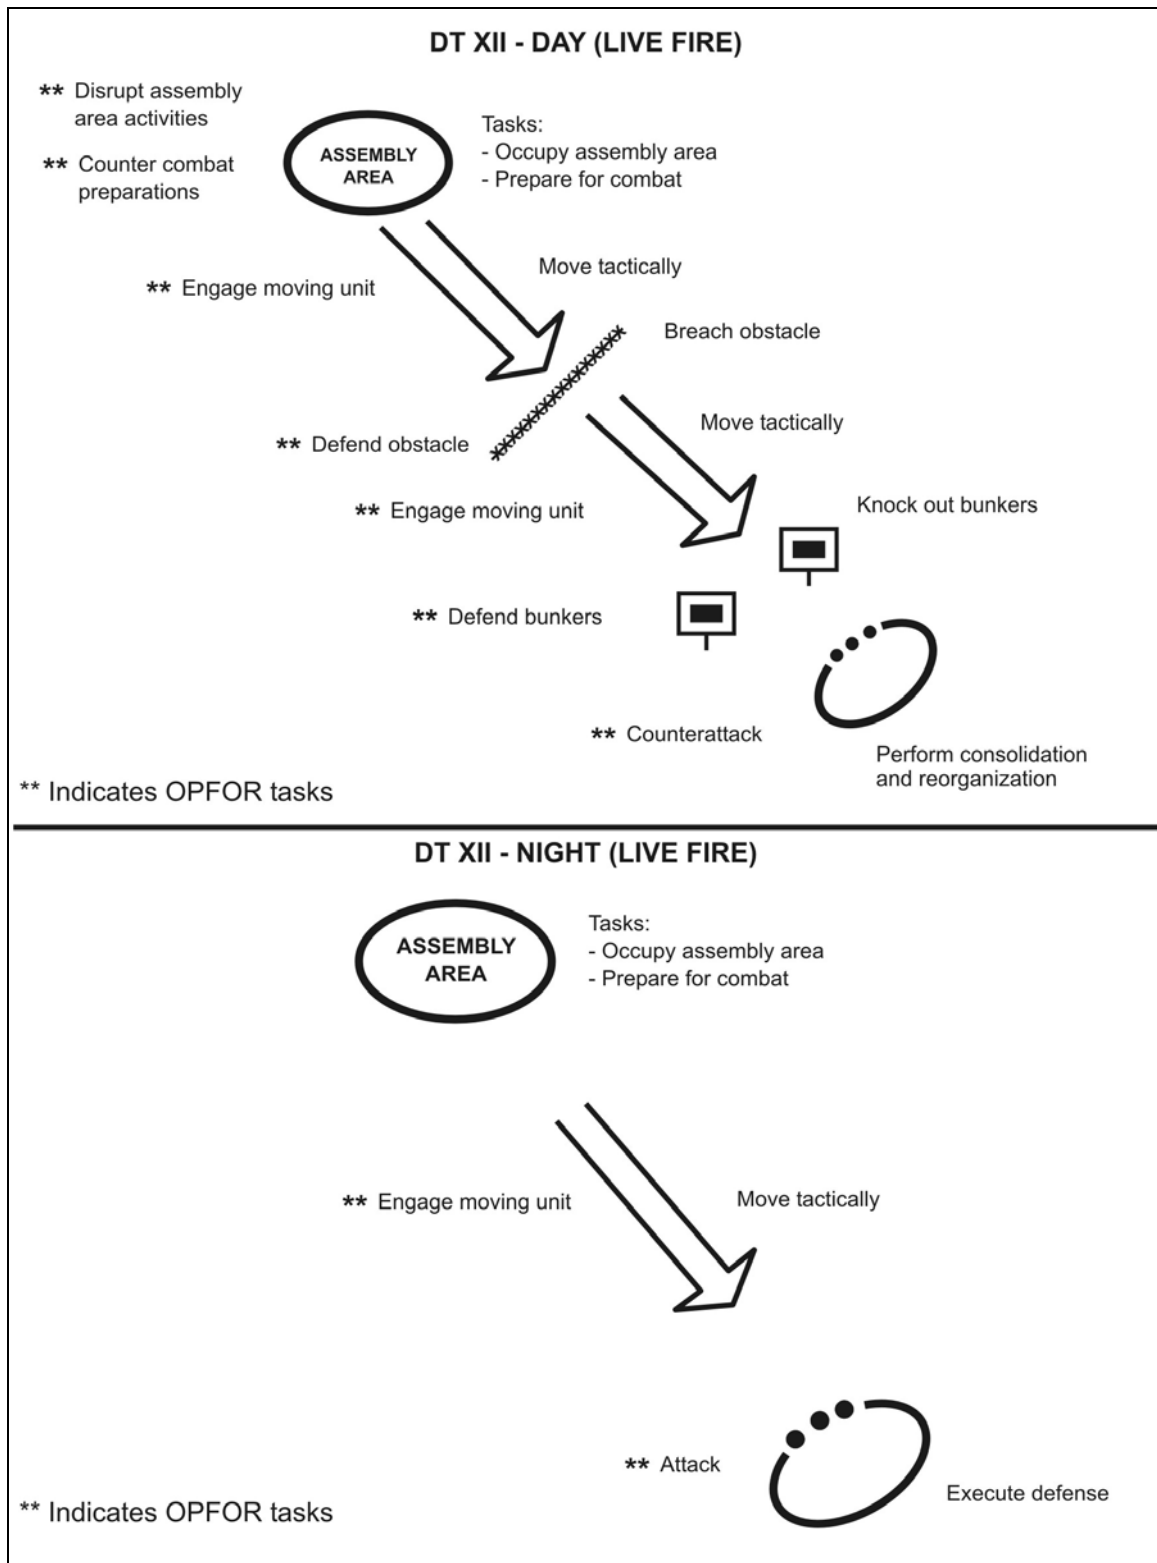

Figure F-21. Platoon qualification (Table XII).
b. **Rifle Infantry Table XII, Platoon Qualification.** DT XII evaluates rifle infantry platoon's ability to conduct live fire, tactical tasks during day and night (Figure F-21, page F-21).